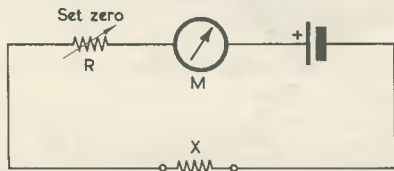

Fig. 1. A basic ohmmeter circuit, as employed in many multimeters
**M**OST MULTIMETERS WHICH ARE SOLD NOWADAYS include facilities for the measurement of resistance and continuity. These meters generally have a circuit of the type shown in Fig. 1, and they work by measuring the current flowing through X, the unknown resistor. The maximum current possible is set by means of R to correspond to full-scale deflection on the meter, and resistance can then be directly read from a suitably calibrated scale on the meter. This method of measuring resistance is adequate for approximate results, but the accuracy with which X can be measured is not very great since calibrations are affected by variations in the cell voltage. Even the best multimeters do not claim to give the resistance of X any closer than about 5% on either side. This figure is not, however, of very much use where any serious experimental work is to be done, and a tolerance of  $\pm 1\%$  or  $\pm 0.5\%$  would be much more realistic.
This approach has several major advantages over the method used in Fig. 1: